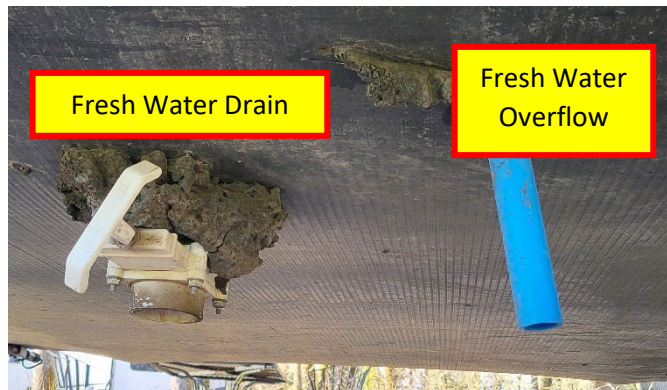

Figure 130. Fresh water drain and overflow.
- **A fresh water holding tank** which is filled at the docking station (covered above). The tank is emptied/drained at a low point drain on the exterior beneath the fresh water holding tank, see Figure 130. There is a large, white, manual pull dump valve to allow for rapid draining if putting